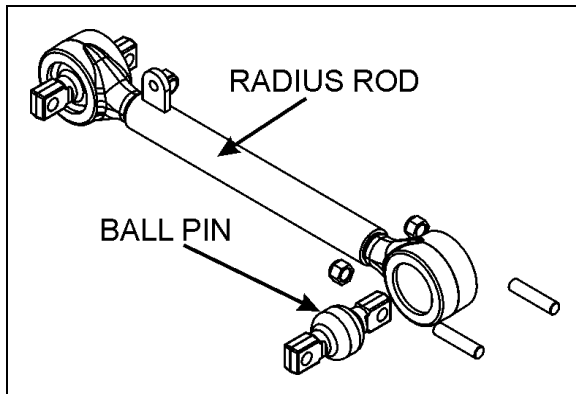

FIGURE 44: TYPICAL RADIUS ROD SETUP 16010
4. Remove nuts and washers from shock absorbers on upper and lower mounting pins, taking care to identify the inner and outer washers to ease reinstallation. Refer to figure 44 for details.